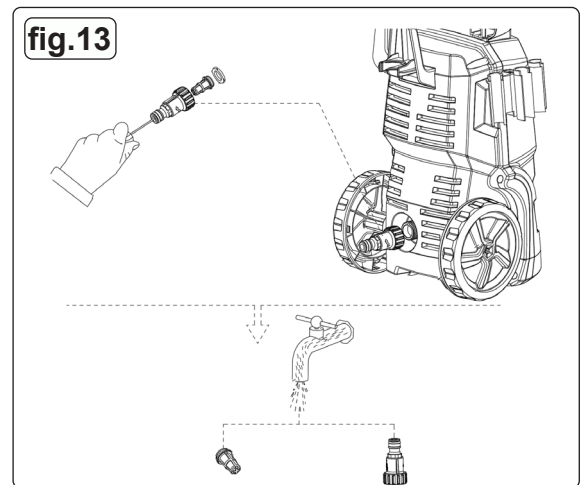

fig.13
7.1. CLEANING OF WATER INLET FILTER FIG.13